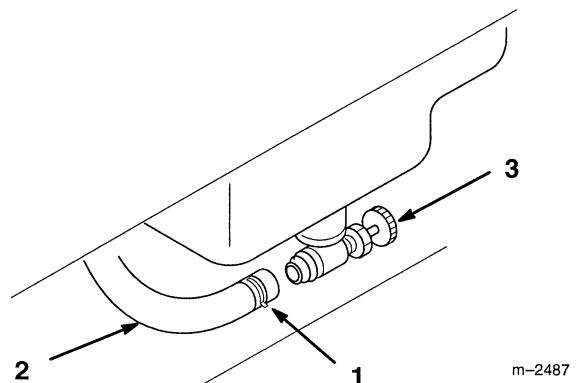

Figure 30
3. Loosen the hose clamp and slide it up the fuel line away from the fuel shut-off valve (Fig. 30).
4. Pull the fuel line off fuel shut-off valve (Fig. 30). Open fuel shut-off valve and allow gasoline to drain into a gas can or drain pan.
5. Install the fuel line onto the fuel shut-off valve. Slide the hose clamp close to the fuel shut-off valve to secure the fuel line (Fig. 30).